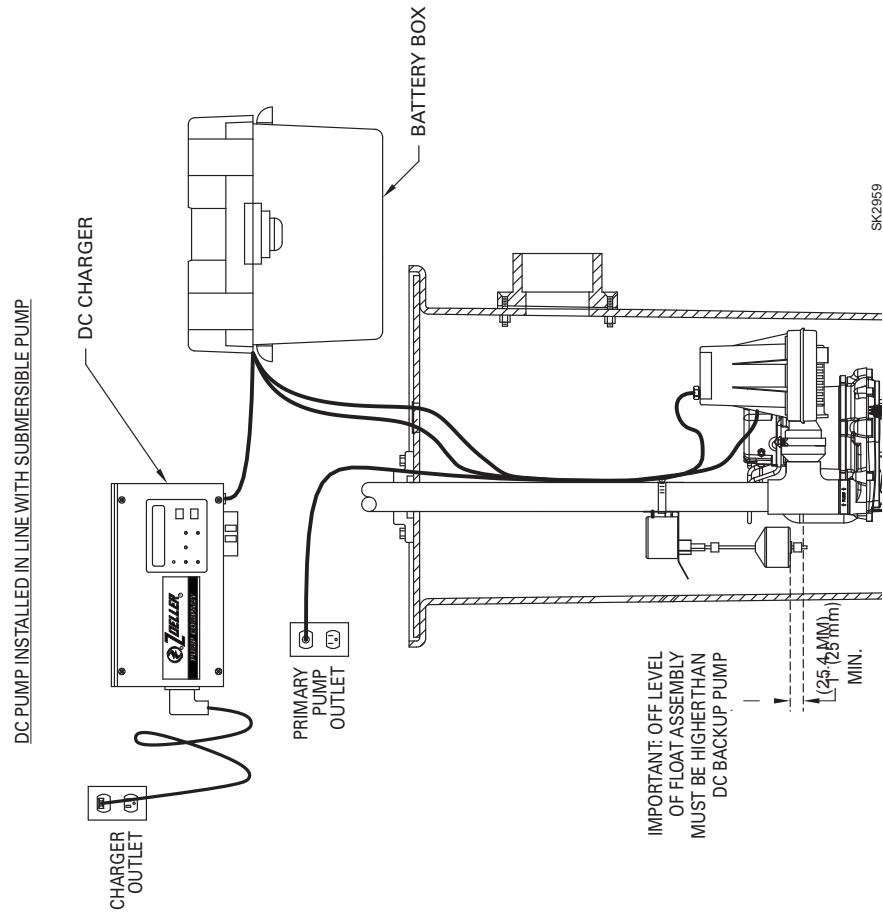

FIGURE 1
1. The preferred method of installation for backup pumps is shown in Figures 1 and 2. The installation kit includes the necessary fittings and one check valve for installing with the backup pump discharging into the primary pump outlet pipe. An additional check valve is incorporated in the discharge of the backup pump.
10. Install the float switch assembly bracket above the outlet tee using the clamp provided (see figures 1 and 2). Make certain the clamp is tight on the pipe to avoid slippage. Ensure that the "off" level of the float is 1" (25.4 mm) min. above the discharge tee of the DC backup pump (see figures 1 and 2). Position pumps in the sump and move float up and down, making sure of free movement without interference from any obstructions inside the sump or lid. The float switch can be moved on the discharge pipe or the rubber stops can be adjusted as necessary. Cut extra float rod length below lower float stop to prevent debris from interfering with float operation.